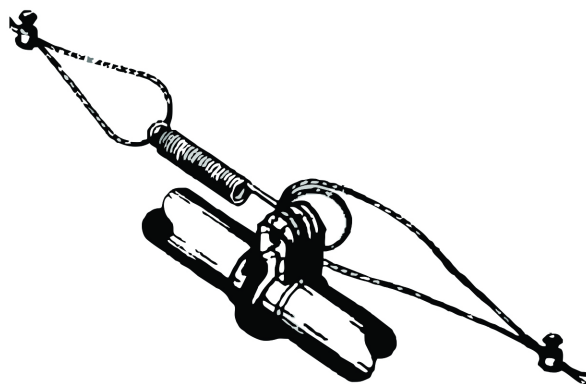

Figure 39. Anti-Roost Cable Mid-Line Connection
4. Attach a spring in the center groove at the second anti-roost bracket and cut the cable at this point. (See **Figure 39.**)
5. Thread the ends of the cable through the end of the spring. Pull the cable tight so that there is 3/4" to 1" [20 to 25 mm] of stretch in the spring. Clamp the cable to form a loop and cut off any excess. (See **Figure 39.**)
6. Attach the cable to the insulator. For best results, make a double loop around the anti-roost insulator in the center groove of the insulator and fasten with a 1/16" cable clamp as shown in **Figure 39.**